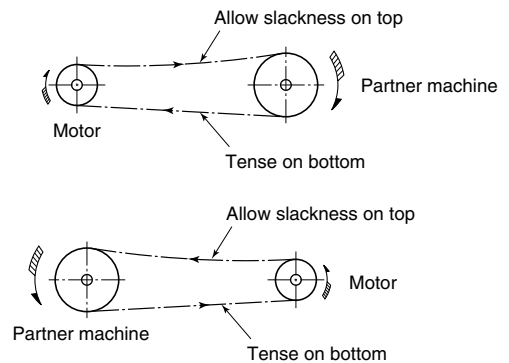

Fig. 3 Belt guiding method
(2) Belt drive
- a. Set the motor and partner machine so that the shafts are parallel, and so that the centers of both pulleys are at a right angle on the same line. (Refer to Fig. 3.)
- b. Make sure that the lower side of the belt is the tensed side. For this, first determine the rotation direction of the partner machine, and then determine the motor position. (Refer to Fig. 3.)